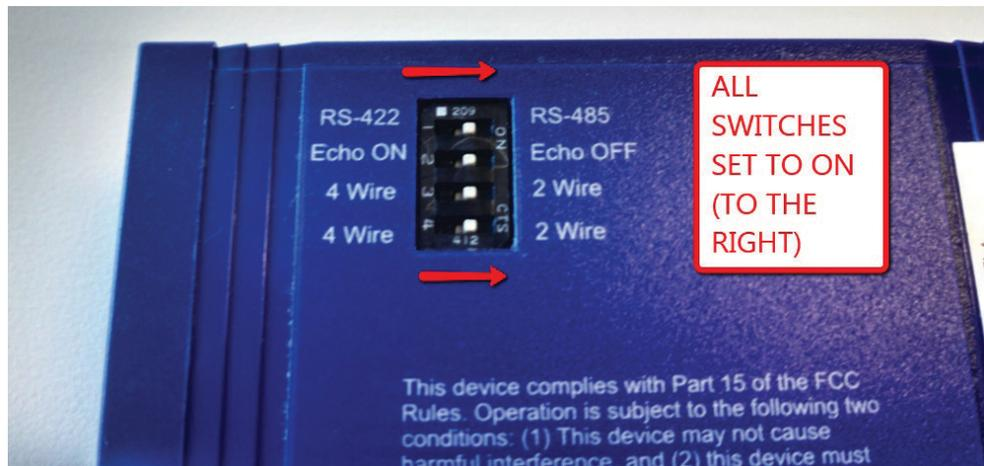

Figure 4 Adapter Switch Settings
4. Set all switches on the RS485 Adapter box to ON. See Figure 4.